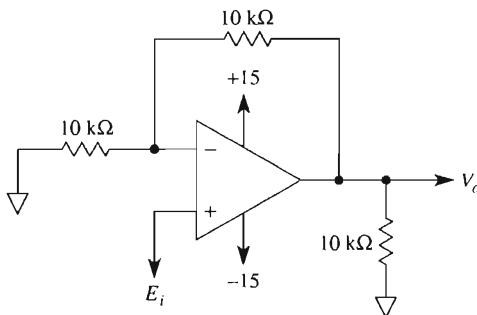

FIGURE P3-9
- 3-9. Identify the circuit in Fig. P3-9 and calculate V_o if E_i equals (a) +5 V; (b) -2 V. Compare your results with Problem 3-5.
- 3-10. Repeat Problem 3-7 except apply it to Fig. P3-9. Compare solutions of both problems to distinguish between inverting and noninverting operation.